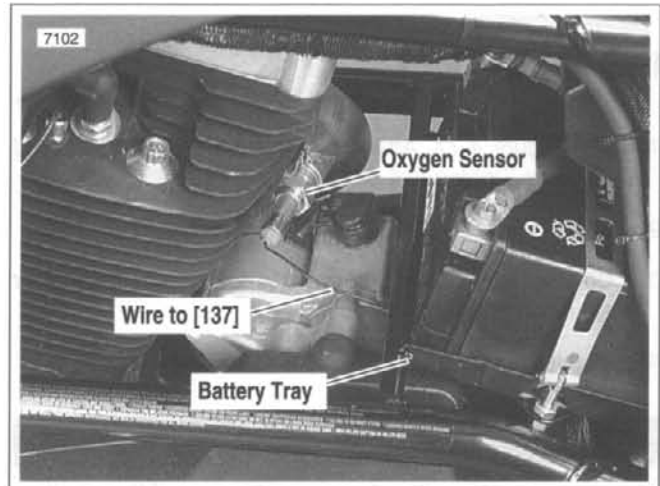

Figure 4-79. Installed Oxygen Sensor
1. See Figure 4-79. Unplug 1-place connector [137] under battery tray.
2. See Figure 4-79. Thread sensor into exhaust header. Tighten to 42-45 ft-lbs (56.9-61Nm).